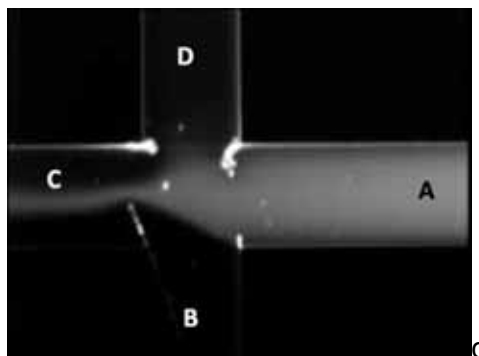

Figure 36. Pinched Injection.
2. Press **A** at the bottom of the control panel to run the **Loading** voltage sequence. On the Manual Sequence Control Panel you should now see channels A-D maintaining the voltages from Table 3. If you are viewing the microchannel on a microscope you should observe a pinched injection as in Figure 36.
3. Press **B** to run the **Injection** step. This will sweep our injection plug onto the separation channel (ports D to B in Figure 36 above).